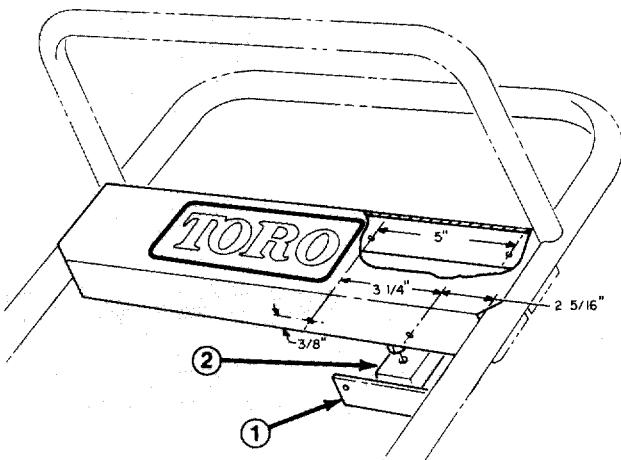

Figure 3
24. Using panel bottom as a template and dimensions in Fig. 3, locate and drill (4) 5/32" (.156) dia. holes in front and back of control panel.